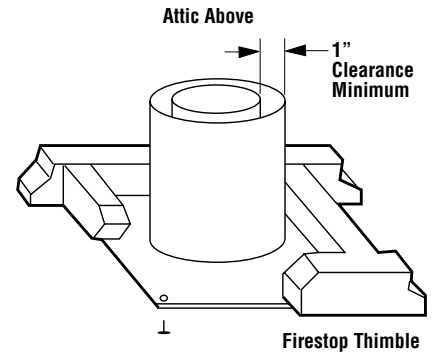
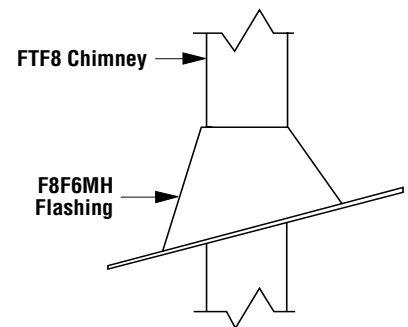

Figure 19
Figure 26
The firestop thimble supplied with the unit must be used on a manufactured home installation. The firestop thimble must extend completely through the roof cavity to the outermost plane of the roof (See Figures 19,20 and 21). Maintain 1" clearance between the thimble and the chimney.
Step 3. Position appropriate thimble/firestop spacer combination at ceiling and nail temporarily with two (2) 8d nails or equivalent fasteners (see Figures 19, 20 and 21). Use one fastener on opposite sides to hold thimble/firestop spacer combination in position. Nail permanently, using at least two (2) more fasteners, after chimney sections have been assembled through the thimble/firestop spacer combination and after any necessary adjustments have been made. Firestop spacer must be secured by at least four (4) fasteners when completely installed.
Next, slide roof flashing over extended chimney section that previously has been installed above the roof opening in Step 4. Slide flashing all the way down until the flashing base rests flat on the roof (Figure 26). Again, check the vertical position of the chimney and the 1" minimum air space to combustibles.
Step 1. Use Offset Chart to determine amount of horizontal offset (A) and height (B) for various chimney section assemblies.
Step 3. Use Elevation Chart as job estimator only. Add necessary firestop spacers and stabilizers as required. Firestop spacers must be used as shown in *Figure 19* and stabilizers as shown in *Figure 26*.